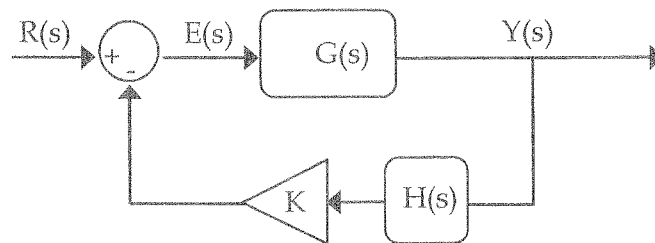

Figure Q2: The Feedback Control System
b) A feedback control system through a single feedback gain is shown in the Figure Q2. Derive the gain and phase conditions of the Root Locus design.